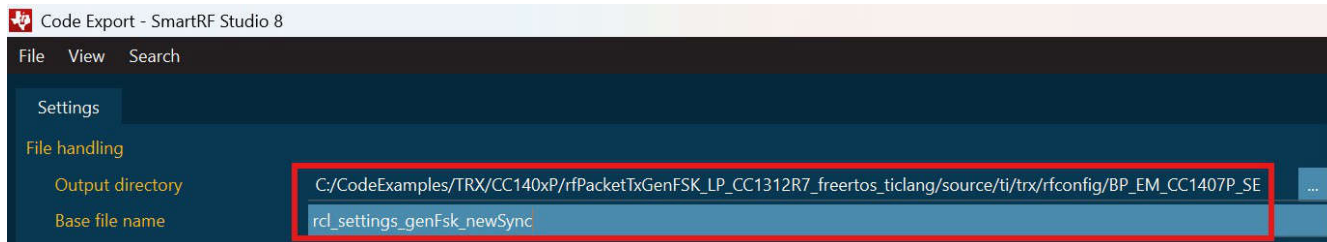

Figure 3-2. File Name and Location for Code Export
3. Input the Output directory and Base file name for the new settings and select File->Save All (see Figure 3-2).